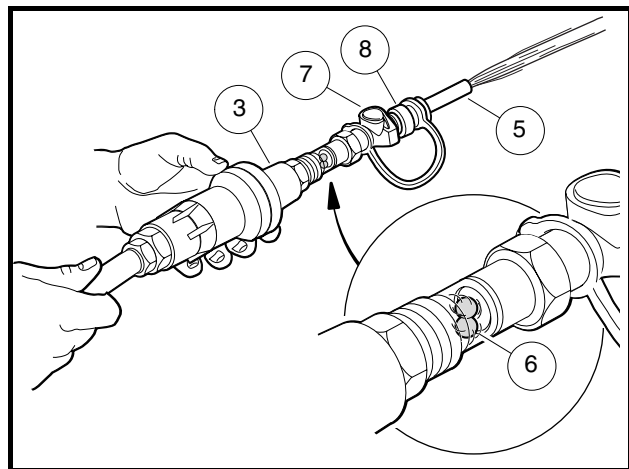

Figure 30 Checking the Water Flow Rate
3. Connect the purger to the female coupler on the hose-end assembly (**Figure 30**).